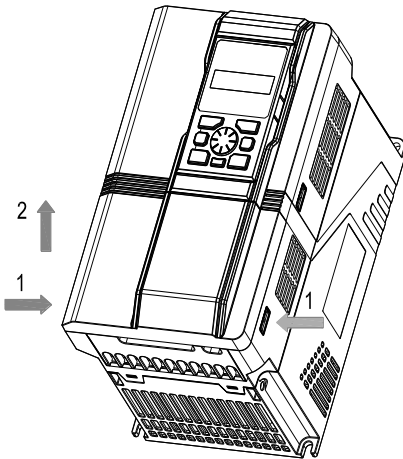

Fig. 3-8 Remove the lower front cover
Step 2: Press the hook in both sides of the lower front cover in the direction of 1 as shown in Fig.3-8 and lift it up in the direction 2 to remove the lower front cover.